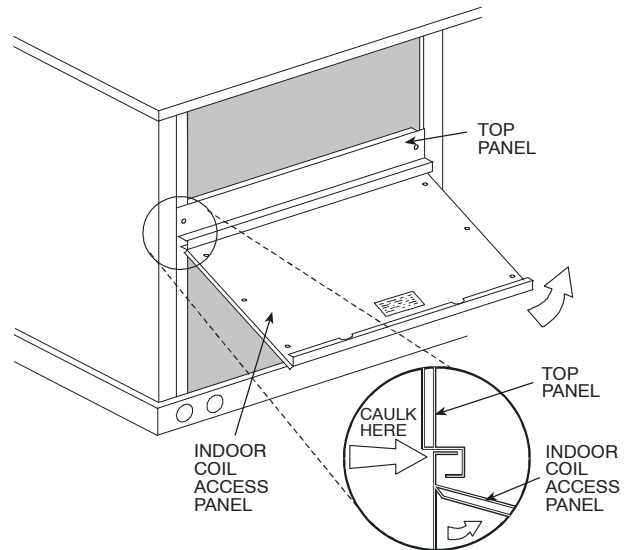

Fig. 12 - Indoor Coil Access Panel Relocation
1. The indoor coil access panel will be used as the top of the hood. Remove the screws along the sides and bottom of the indoor coil access panel. (See Fig. 12.)